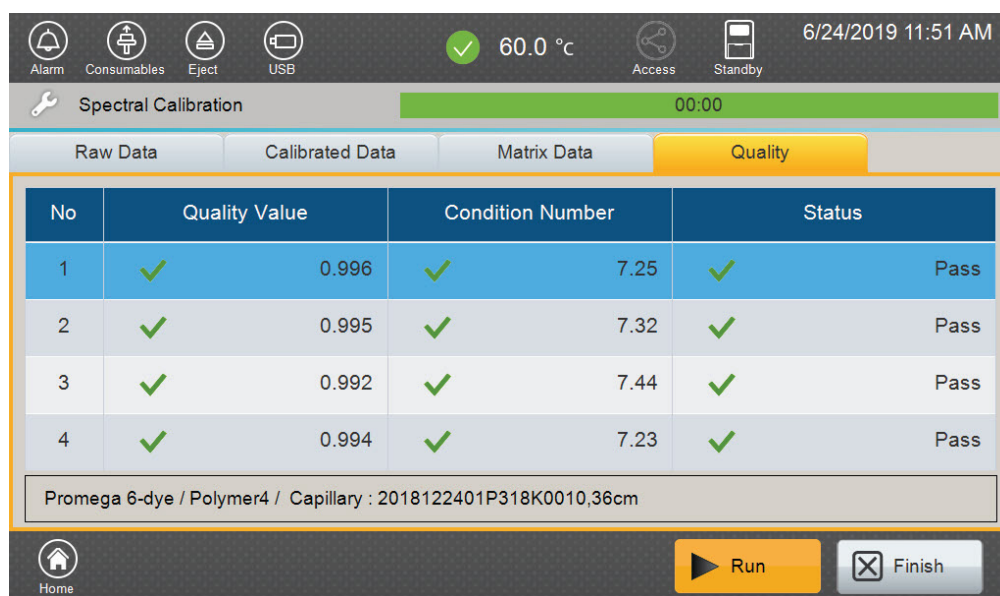

Figure 27. Spectral Calibration 'Quality' tab.
- Review the quality of the spectral calibration by selecting the 'Quality' tab (Figure 27).